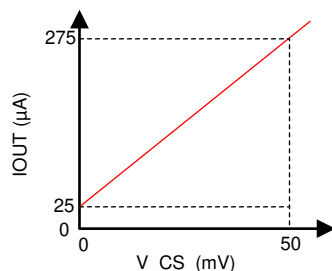

图 8-5. Channel Monitor Current Source Versus Current Sense Voltage
- 25 μA is a DC offset current superimposed on to the IOUT signals (refer to 图 8-5)